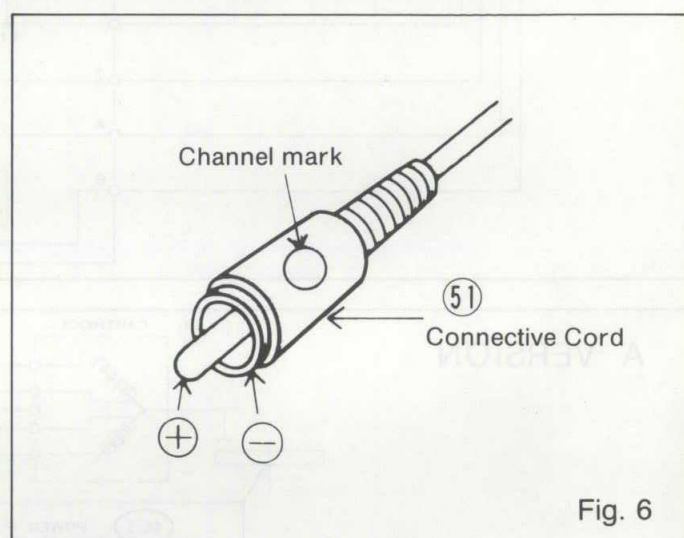

Fig. 6
No : Perform continuity test between Tonearm (43-1) end and Connective Cord (51) on dead channel (Fig. 6).